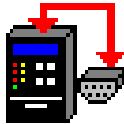

Figure 9-1 TapTalk Program-Item Icon
- The Installation Wizard will prompt the user through the installation process. After installation, the TapTalk® program icon (located in the Becoware folder) can be placed on the desktop (Figure 9-1).